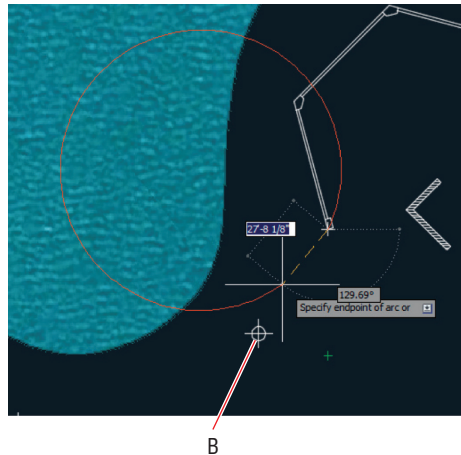

FIGURE 5.2 The polyline arc follows the curvature of the lake.
2. Toggle off Ortho and Polar Tracking modes if they are on. Observe that the arc you are drawing follows the natural curvature of the lake (see Figure 5.2). The command prompt reads as follows:
3. Type S (for Second Point) and press Enter. Click point B shown in Figure 5.2.